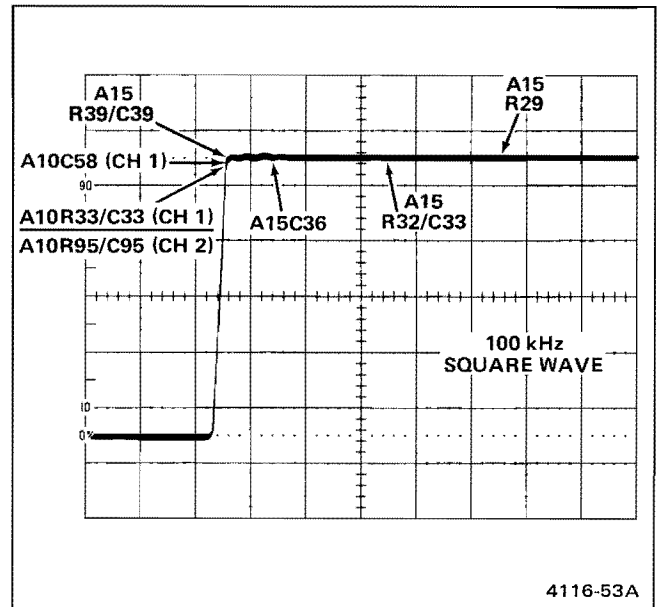

Figure 5-1. Areas affected by high-frequency compensation adjustments.
d. CHECK—Flat-top display aberrations are within $\pm 3\%$ (0.15 division or less). See Figure 5-1 for a typical display.
e. ADJUST—Vertical Output Amplifier HF Compensation (R29, R32, and C33) for the best flat-top display (see Figure 5-1).
g. ADJUST—Vertical Output Amplifier HF Compensation (C36) for the best flat-top display (see Figure 5-1).
i. ADJUST—CH 2 Preamp HF Compensation (R95 and C95) and Vertical Output Amplifier HF Compensation (R39 and C39) for best front corner (see Figure 5-1).
k. ADJUST—CH 1 Preamp HF Compensation (R33, C33 and C58) for best front corner (see Figure 5-1) NOTE: C58 affects the same area on the waveform as C33 and R33 do. C58 is located just to the right of Q57 (see ADJUSTMENT LOCATIONS 1 and Figure 9-7).